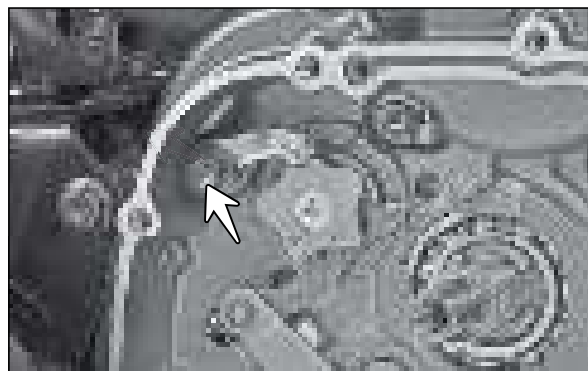

Fig. 3.118
- Remove bolt gear shift cam stopper and take out stopper complete gear shift along with spring gear shift cam stopper and shim. (Fig. 3.118)